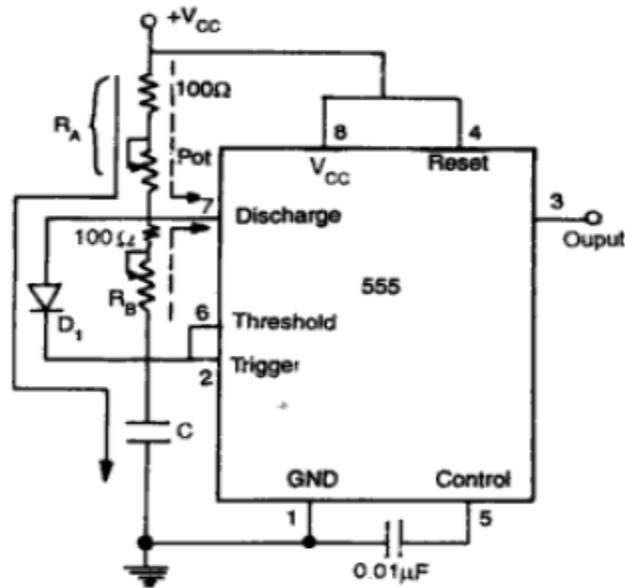

Figure 19: Adjustable duty cycle rectangular wave generator
- An alternative circuit which will allow duty cycle to be set at practically any level is shown in Fig. 19.